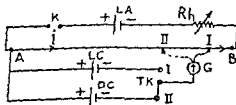

Fig. 17-1
**Procedure—1,** Make the connections as shown in the fig 17-1 i.e., first join in series the plug key, the lead accumulator & the rheostat between the ends A and B of the potentiometer wire so that a current begins to flow through A B. Next connect the positive electrodes of both the given cells at the same end where positive pole of the lead accumulator has already been connected. The negative electrodes of the two given cells are joined to the end terminals of the two way key whose central terminal is connected to one terminal of the galvanometer. The other terminal of the galvanometer is connected to the jockey J sliding over the potentiometer wire.